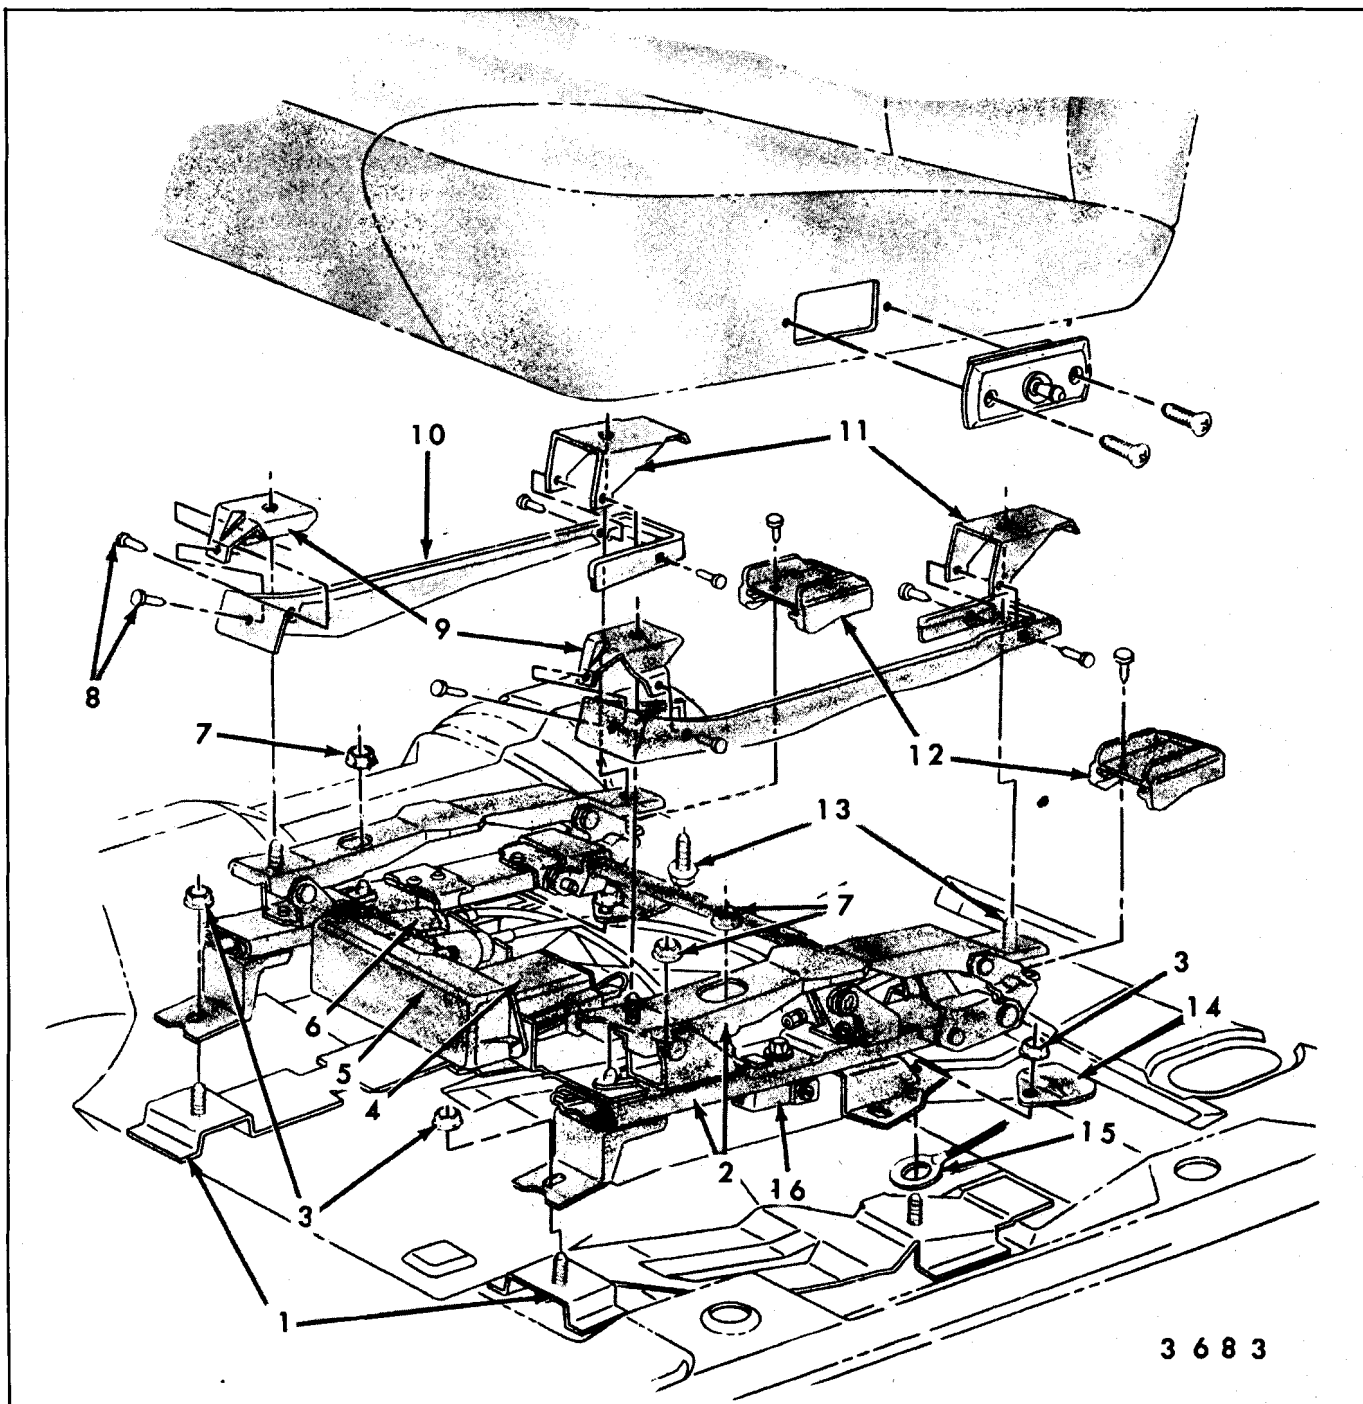

Fig. 14-40-Power Operated Four-Way Bucket Seat Adjusters - "A" Body Styles
- Remove seat adjuster-to-floor pan rear attaching bolts (Figs. 14-40 and 14-41).
- Operate seat to full rearward position. Remove seat adjuster-to-floor attaching bolts (Figs. 14-40 and 14-41). Tilt seat rearward sufficiently to disconnect seat harness feed connector and detach harness from clip on floor pan. On seats with electric seat back locks disconnect lock solenoid wire from feed wire connector. Remove seat assembly from body.
3. If outboard adjuster is being removed, disconnect both, horizontal and vertical, drive cables from vertical gearnut and horizontal actuator (Figs. 14-40, 14-41 and 14-42).
4. Remove nuts securing motor and transmission support to adjuster being removed (Figs. 14-40, 14-41 and 14-42).
5. Remove adjuster-to-seat bottom frame front and rear attaching bolts securing adjuster to be removed (Figs. 14-40, 14-39 and 14-42).